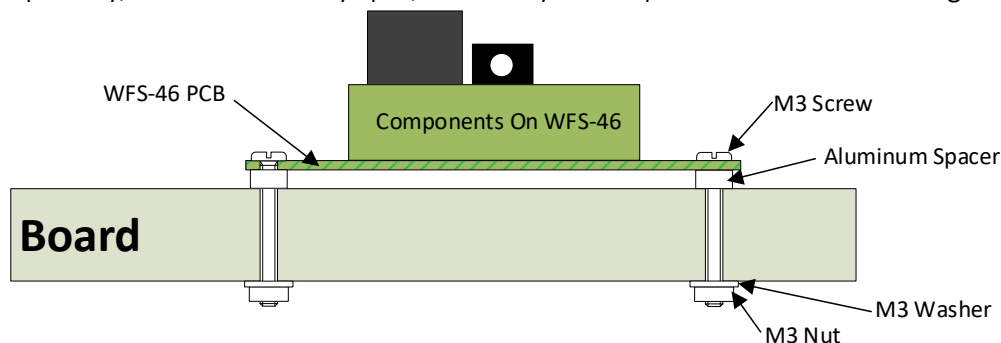

Figure 6 Mounting Suggestion
- (7) Mount the unit to your baseboard using the four M3 metric screws, nuts and spacers provided. Mount the unit on a suitable piece of board, either your baseboard (top or bottom) or a separate board perhaps at the front of your model railroad. The component side of the module should face away from the board as in Figure 6. Take care that no part of the unit touches any metal as this may cause a short circuit and result in permanent damage. Do not mechanically stress or bend the module as this may cause permanent damage. **Take care to ensure that there is adequate ventilation to avoid overheating.**
- (8) **CHECK YOUR WIRING!** Turn on the power. If you have installed manual push buttons you may test the unit by pressing each button momentarily in turn. If you have not installed push buttons, refer to the Tower Operator Quick Start, or Full Help Pages for instructions on setting up a schematic control panel on your Windows or Android computer or tablet.